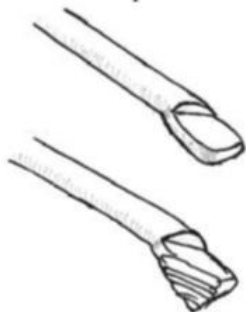

Figure 10: Drawing out the scarf
- Flip the link up and draw out the longer side of the scarf into a taper as seen in the bottom of figure 10.